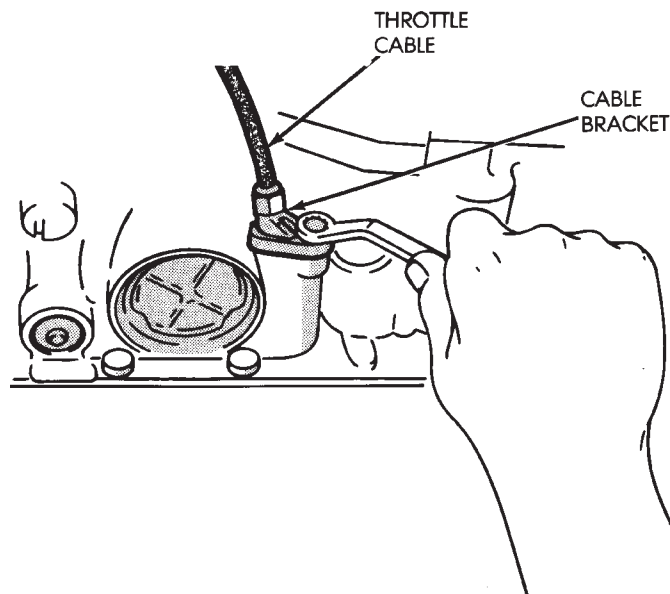

Fig. 43 Removing/Installing Transmission Throttle Cable And Bracket
(5) Remove cable bracket bolt and remove cable and bracket from case (Fig. 43).
- (4) Install cable bracket on case and tighten attaching bolt to 10 N•m (7 ft-lbs) torque (Fig. 43).
- (5) Remove old sealer material from oil pan and transmission case. Clean oil pan with solvent and dry it with compressed air.
- (6) Apply bead of Mopar or Loctite 599 sealer to oil pan sealing surface. Sealer bead should be at least 3